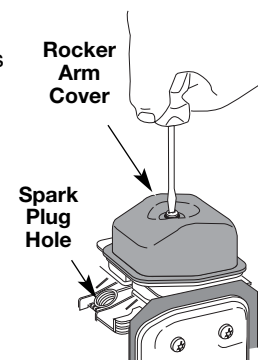

Fig. 39
5. Clean dirt from around the rocker arm cover. Remove the screw holding the rocker arm cover with a large flat blade screwdriver or Torx T-25 bit (Fig. 39). Remove the rocker arm cover and gasket.